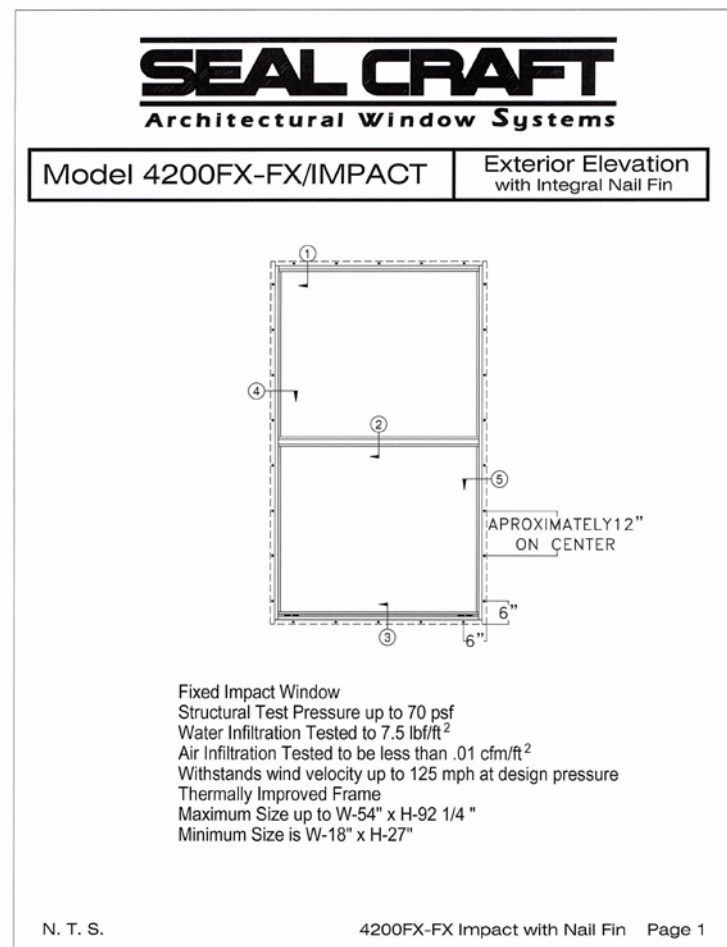

Fig. 1
5.4.2 Fasteners should be Minimum 6" from each corner and Minimum 12" on center at the full perimeter of the window. See Fig. 1 below.
5.4.3 Fasteners should be placed equal to or greater than 1/2" away from edge of rough opening. See Fig. 1 below.